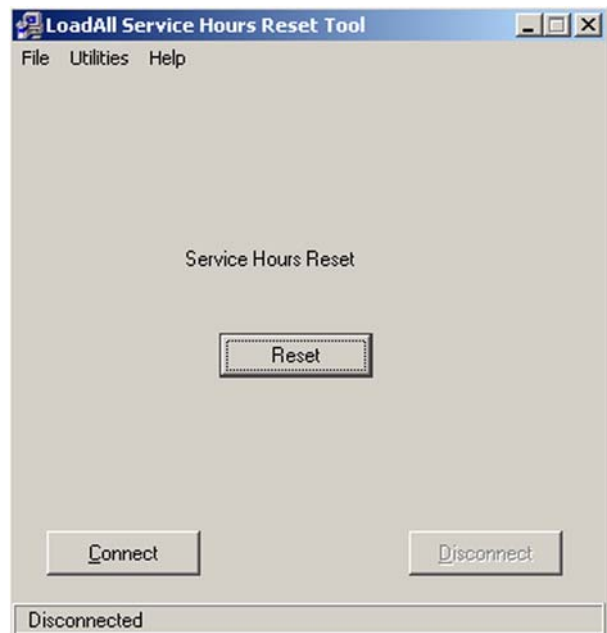

Fig 9.
- 5 The **Service Hours Reset** tool will then open up. ⇒ Fig 9. \(M2-11\)